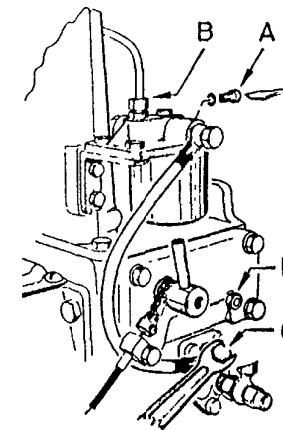

Fig. 11
## Bleeding the Fuel System (fig 11):
1. Fuel filter and fuel tank tube are bled by loosening the fuel leak-off pipe nut on filter (B) or the small bleeder screw (A). Keep open until fuel flows freely without bubbles. Tighten securely.
2. To bleed the fuel suction hose between filter and injection pump loosen the banjo nipple (C) screw on fuel pump 3 turns (see fig. 11).
The suction hose end should point upwards from the banjo nipple to avoid air lock (fig. 11):
#### Adjusting Idling Speed (fig. 11, pos. D):
The idling speed is only controlled by an idling spring (Gr. 43—2, pos. 15) inside the governor cover (fig 11).